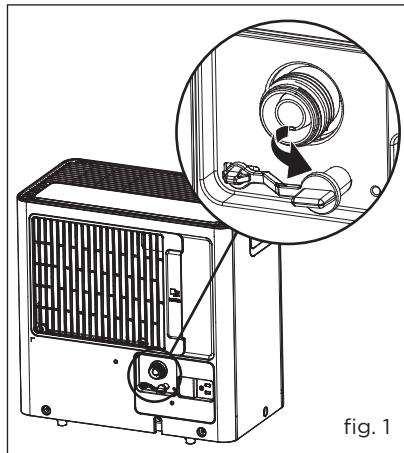

fig. 1
b. Remove the water plug from the back drain outlet of the unit (fig.1)